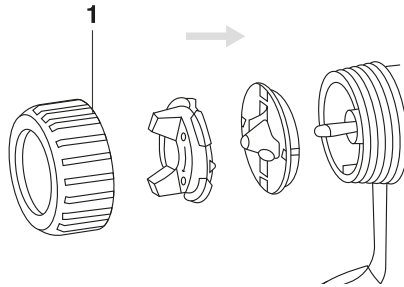

Fig 14
- Screw the union nut (Fig. 14, 1) onto the gun and tighten it.
Tighten the union nut (Fig. 14, 1) fully so that no paint is able to penetrate the device.